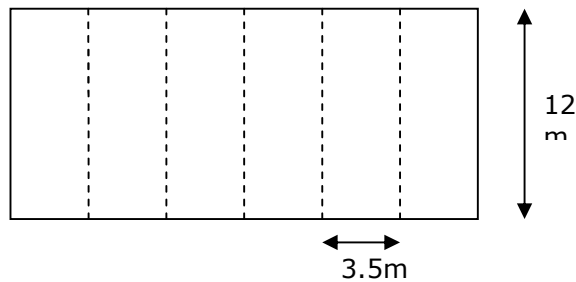

Figure.2
1. Design a simply supported composite beam of span 10m as shown in the figure.2. The thickness of slab is 125mm. The floor is to carry an imposed load of 2.0kN/m^2 , partition load of 1.0kN/m^2 and a floor finish of 0.5kN/m^2 . Assume the grade of concrete as M30, yield stress of structural steel is 280N/mm^2 and density of concrete is 25kN/m^3 . Use partial safety factor for both live load as 1.5 and dead load as 1.4. Check the deflection serviceability condition alone.